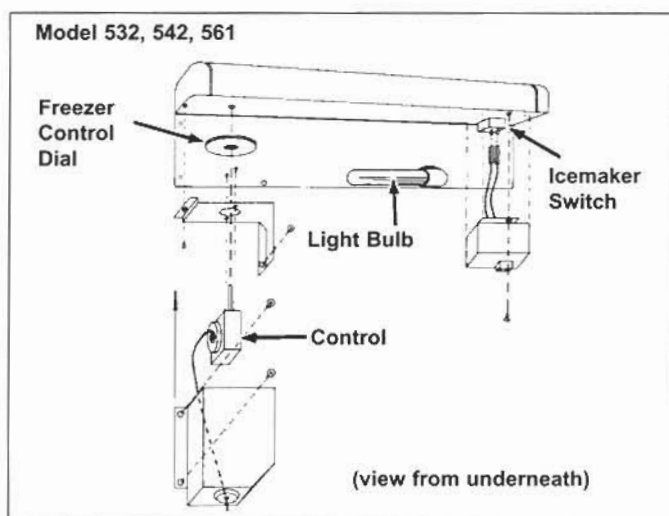

Figure 2-60. Freezer Control Area
3. The freezer control and ice maker switch can be accessed from the back of the panel (Figure 2-60).